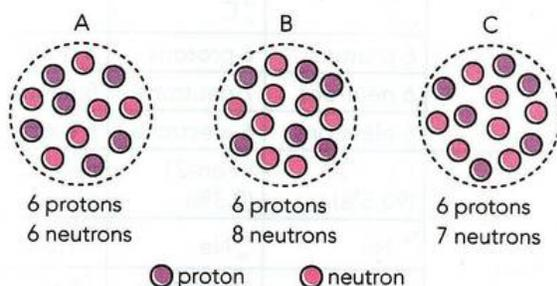

Figure 2.7: The nuclei of carbon isotopes.
- 5 Which of the diagrams A, B or C represents the nucleus of an atom of the carbon-14 isotope (Figure 2.7)?